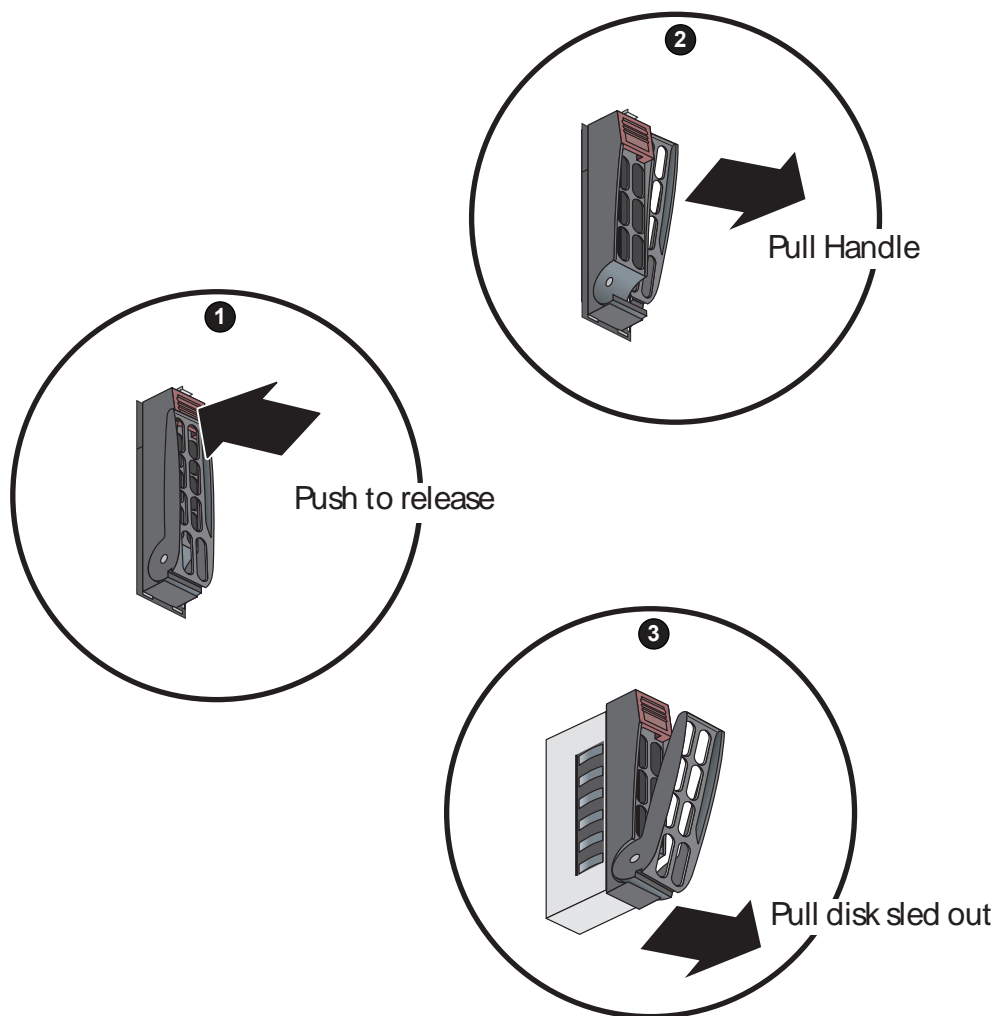

Figure 5-4 Hard Drive Remove/Replace Example
4. Locate the drive you need to remove and push in its top release switch, see Figure 5-4 on page 60 for an example.